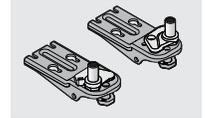

Figure 4
11. Install the new lower bearing onto the lower hinge by placing it over the hinge pin (see Figure 4).